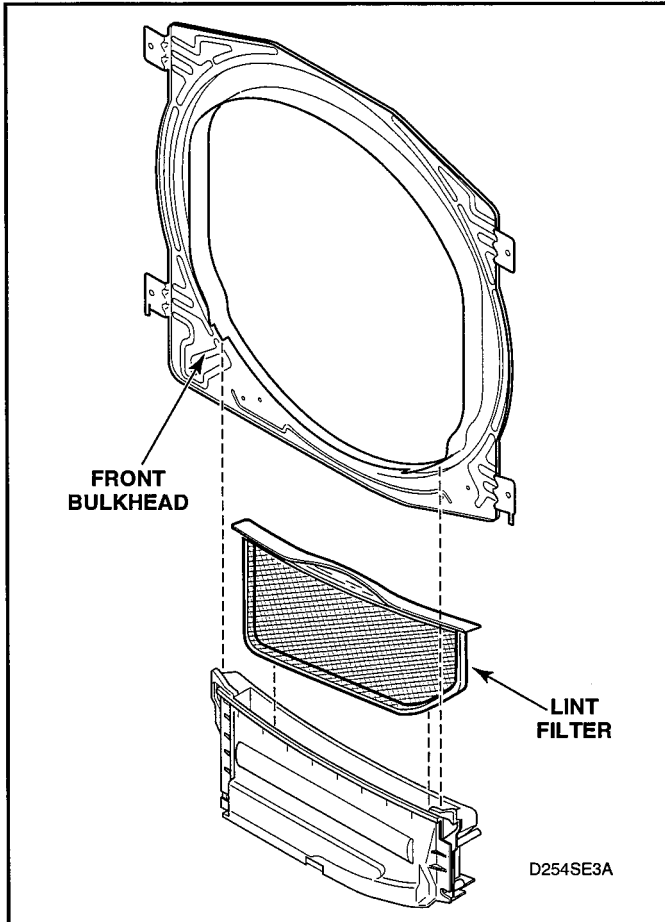

Figure 5-27
- Disconnect wires from moisture sensor terminals (if applicable). See figure 5-27.
- f. Disconnect two wires connected to the moisture sensor. See figure 5-27.